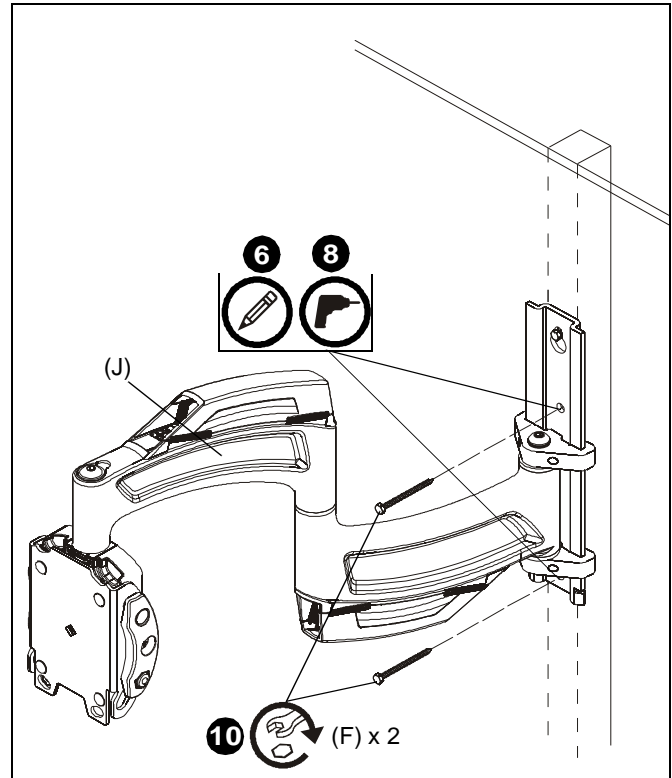

Figure 2
6. Mark two holes at lower mounting hole locations. (See Figure 2)
7. Remove main assembly (J) from wall.
8. Drill two 1/8" holes at locations marked in Step 6. (See Figure 2)
9. Hang main assembly (J) back onto wall.
10. Install two 1/4 x 2 1/2" lag bolts (F) into holes drilled in Step 8 to secure mount to wall. (See Figure 2)
11. Tighten all three lag bolts (F) to fully secure mount to wall.